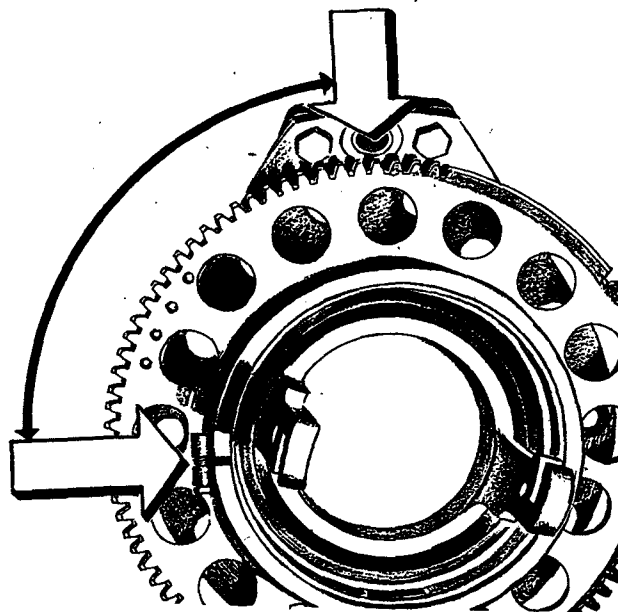

Figure 27
(3) Install the lock ring with the clamping screw at 90 degrees to the pinion gear. (See figure 27.)